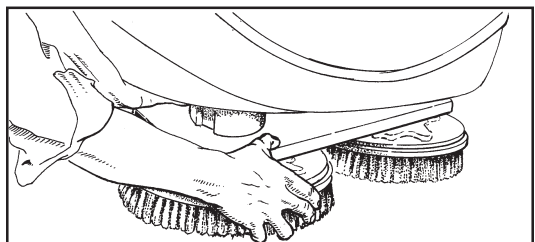

Figure 17
6. Put a brush or pad driver under the brush motor plate. See figure 17.